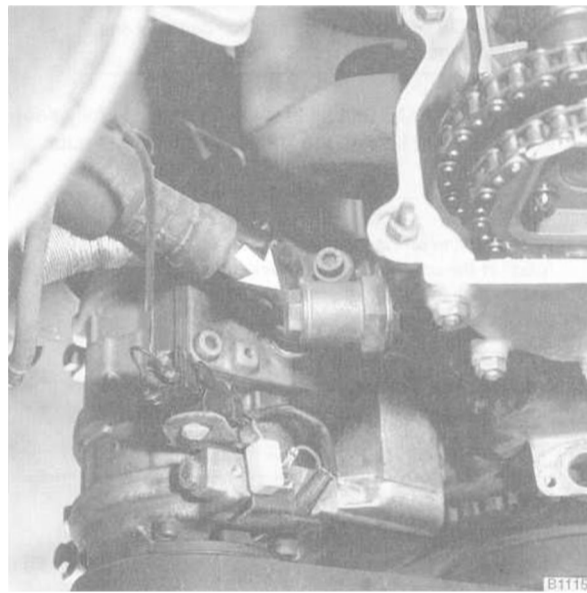

Fig. 40. Primary timing chain tensioner (arrow)
2. Remove the primary timing chain tensioner from the side of the cylinder head. See Fig. 40. Install BMW special tool no. 11 3 390 into the primary timing chain tensioner sleeve. Thread the tool in finger tight until the slack is removed from the chain.